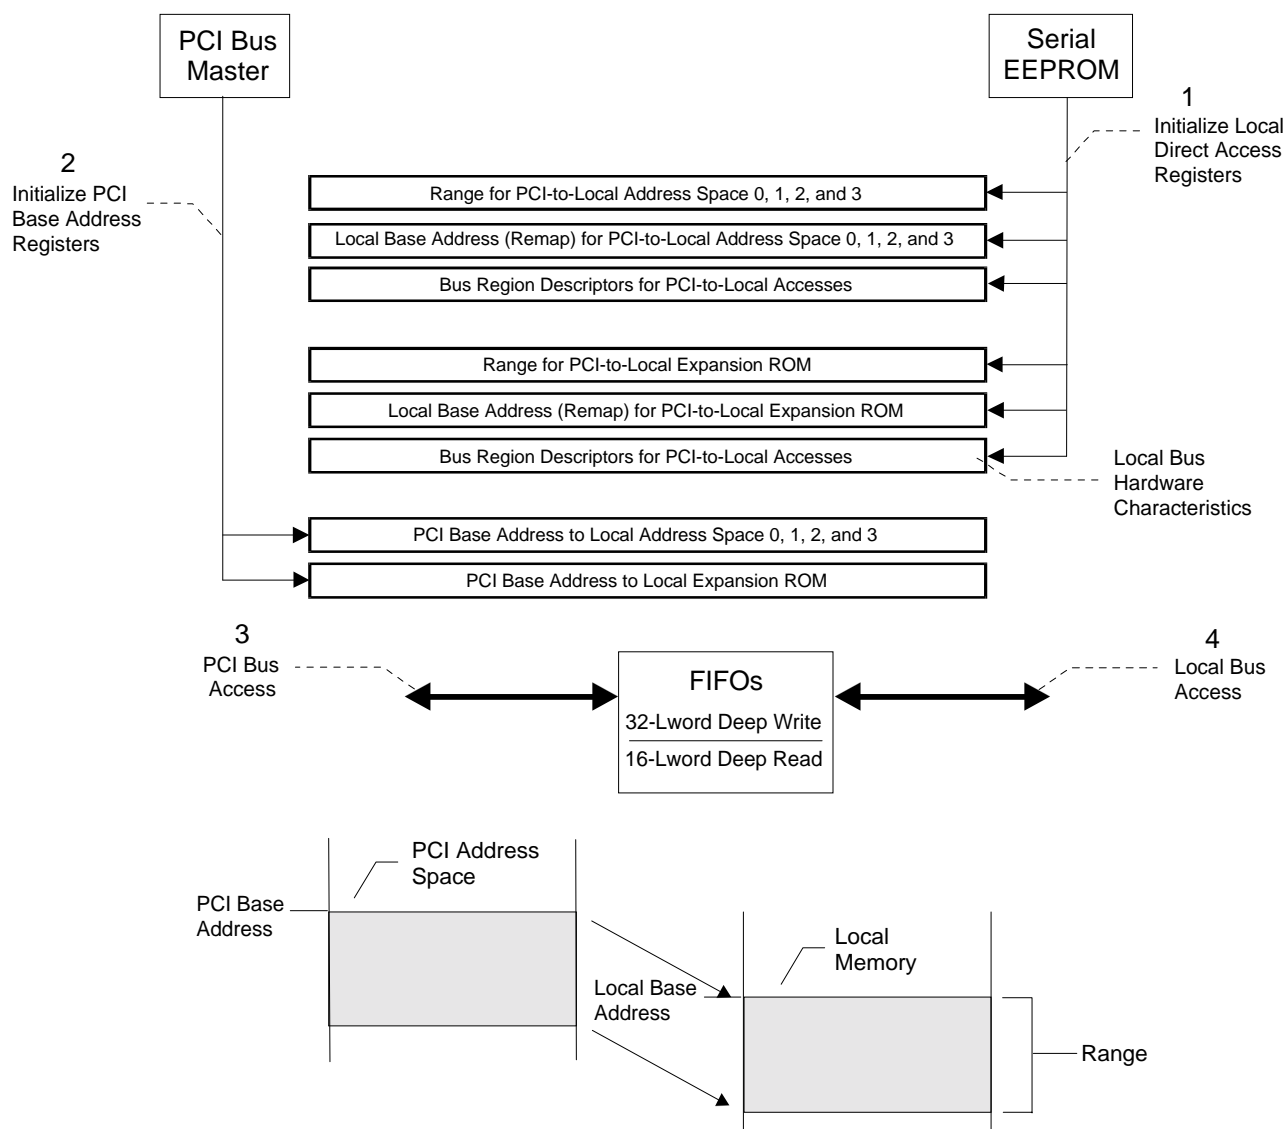

Figure 4-5. Local Bus PCI Target Access
A fourth register, the Bus Region Descriptor register for PCI-to-Local Accesses (LAS0BRD, LAS1BRD, LAS2BRD, LAS3BRD, and/or EROMBRD), defines the Local Bus characteristics for the PCI Target regions (refer to Figure 4-5).
After a PCI reset and serial EEPROM load, the software determines the amount of required address space by writing all ones (1) to a PCI Base Address register and then reading back the value. The PCI 9030 returns zeroes (0) in the Don't Care Address bits, effectively specifying the address space required, at which time the PCI software maps the Local Address space into the PCI Address space by programming the PCI Base Address register. (Refer to Figure 4-5.)